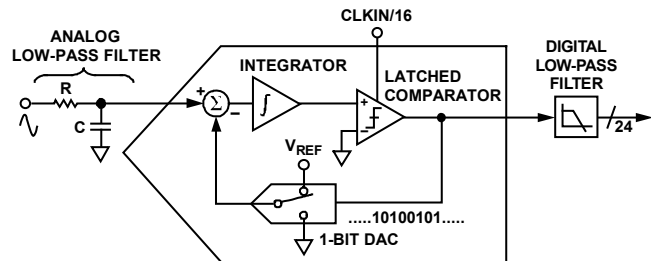
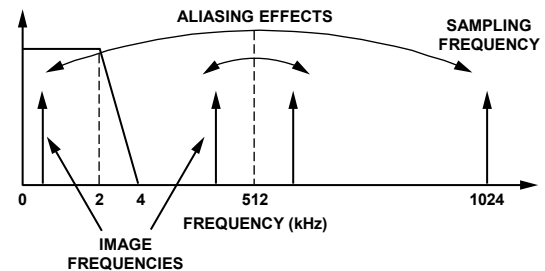

Figure 31. First-Order Σ - Δ ADC
Figure 33. Aliasing Effects
For simplicity, the block diagram in Figure 31 shows a first-order Σ - Δ ADC. The converter is composed of the Σ - Δ modulator and the digital low-pass filter.
Figure 31 shows an analog low-pass filter (RC) on the input to the ADC. This filter is placed outside the ADE7854A/ADE7858A/ADE7868A/ADE7878A; its role is to prevent aliasing. Aliasing is an artifact of all sampled systems, as shown in Figure 33. Aliasing means that frequency components in the input signal to the ADC, which are higher than half the sampling rate of the ADC, appear in the sampled signal at a frequency below half the sampling rate. Frequency components above half the sampling frequency (also known as the Nyquist frequency, that is, 512 kHz) are imaged or folded back down below 512 kHz. This happens with all ADCs regardless of the architecture. In the example shown, only frequencies near the sampling frequency, that is, 1.024 MHz, move